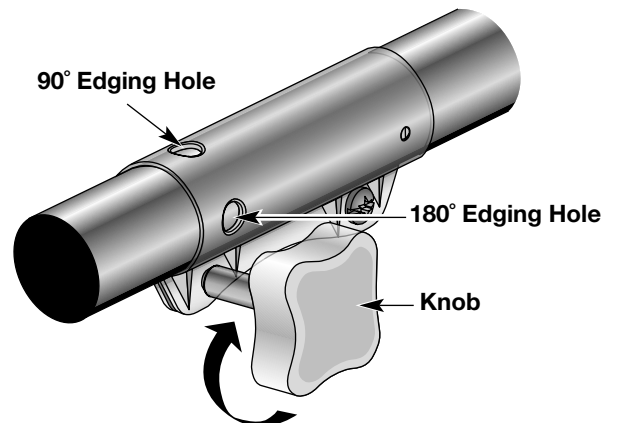

Fig. 13
3. Turn the knob clockwise to tighten (Fig. 13).